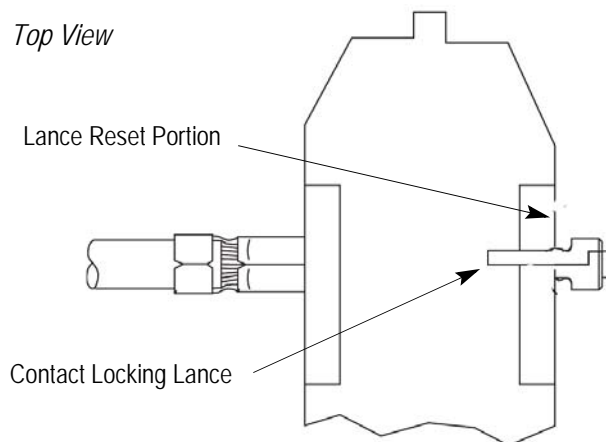

Figure 3
3.2. Locking Lance Reset (See Figure 3)